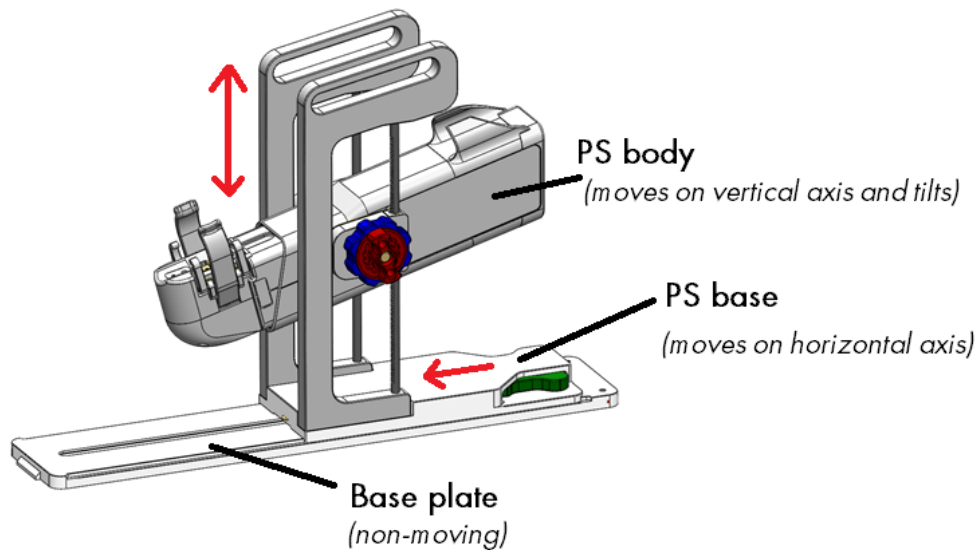

Figure 22: Adjusting the Positioning System
3. **MRI Technologist:** Manually move the PS into position so that the UA gripper aligns with the natural angle of the UA in the patient. Manually adjust the base of the PS forward and backward and up and down, and tilt the linear axis of the PS up and down (Figure 22).
**NOTE:** The PS adjustment knobs and levers are not coloured as in Figure 22, but are coloured here to help with these instructions.